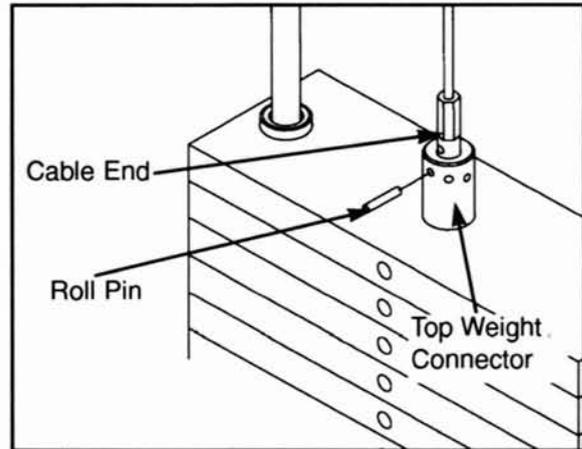

Figure 8
- 3. Roll Pin Adjustment** - This type of adjustment utilizes a roll pin and series of holes in the weight stack top plate connector. See Figure 8.